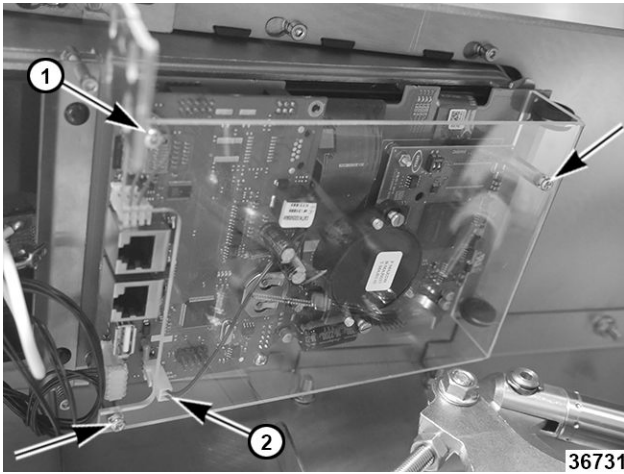

Fig. 34
3. Remove screws (1, Fig. 34) to remove display board cover.
NOTE: Disconnect buzzer connection cable (2, Fig. 34).